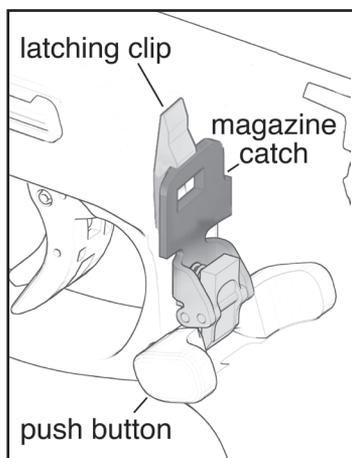

Figure 44 – Diagram of Push Button Parts
3. When the magazine catch is pushed downwards and engages the latching clip, there may be an audible click (Figure 51). Check to ensure the components are properly positioned (Figure 44, 45, 51).